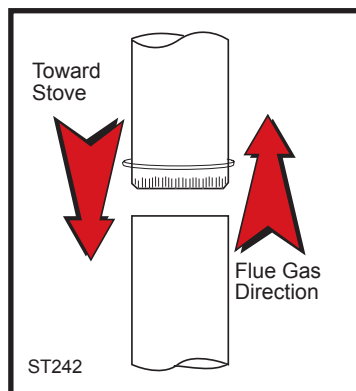

Fig. 4 Chimney connector.
- Begin assembly at the flue collar of the stove. Insert the first crimped end into the stove's flue collar, and keep each crimped end pointing toward the stove. (Fig. 4) Using the holes in the flue collar as guides, drill 3 mm (1/8") holes in the bottom of the first section of chimney connector and secure it to the